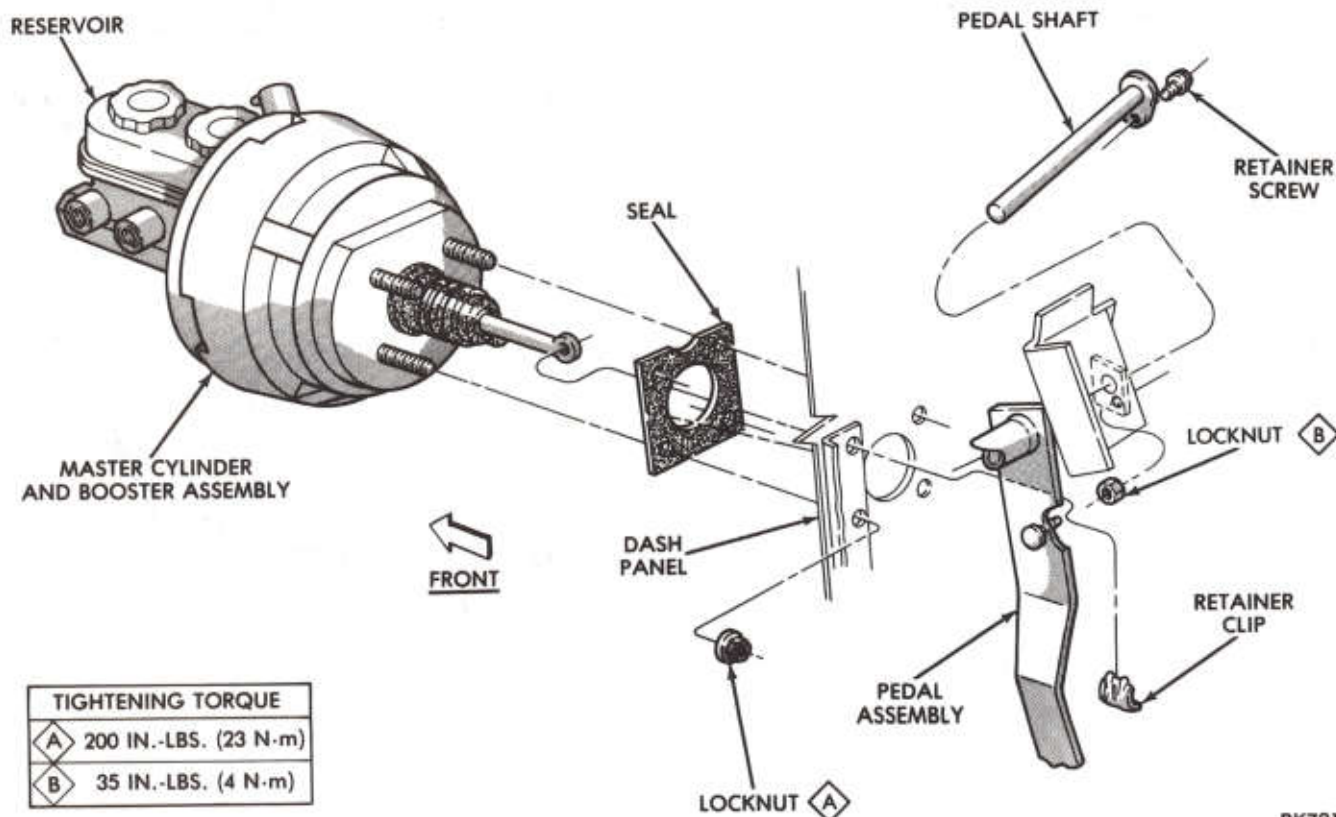

Fig. 1—Power Brake Mounting and Related Parts
(1) From under instrument panel, position a small screwdriver between the center tang on the retainer clip and the pin in the brake pedal (Fig. 1). Rotate screwdriver enough to allow retainer clip center tang